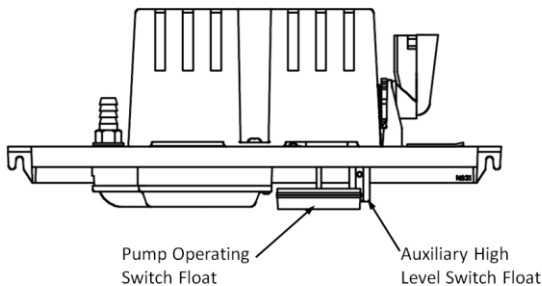

Figure 7
**Step 3** Remove tank/cover assembly from tank (Figure 7).
- a. Remove (4) screws that secure the tank/cover assembly to the tank.
**Step 4** Test pump operating switch by raising pump switch float (Figure 7).
**Step 5** Test auxiliary high level switch by raising high level switch float (Figure 7).
- b. Secure the tank/cover assembly to the tank using (4) screws removed previously being careful not to over-tighten or strip during installation.
**Step 1** Remove tank/cover assembly from tank (Figure 7).